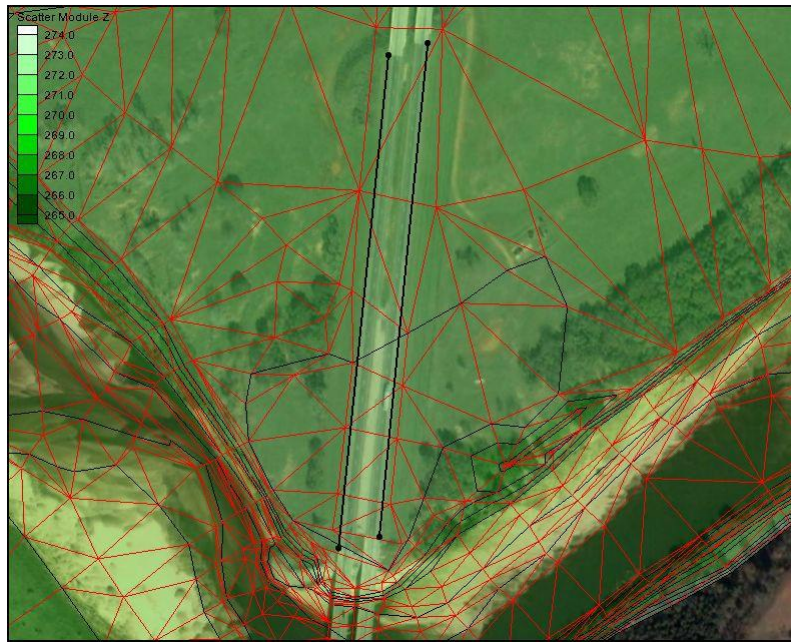

Figure 13 Arcs along embankment edges
1. **Zoom**  in to the bottom of the TIN as seen in Figure 13.
3. Select the **Create Feature Arc**  tool and create two arcs as shown in Figure 13. No intermediate points are required at this time.